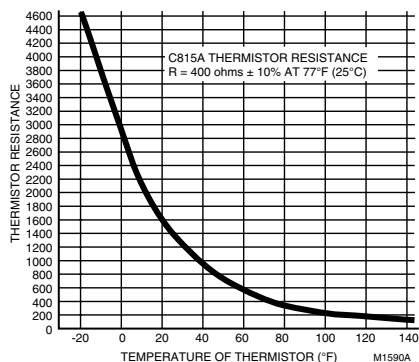

Fig. 10 Thermistor resistance chart.
- 3 Take the outdoor temperature at thermistor location and find the correct thermistor resistance on the chart in Fig. 10.